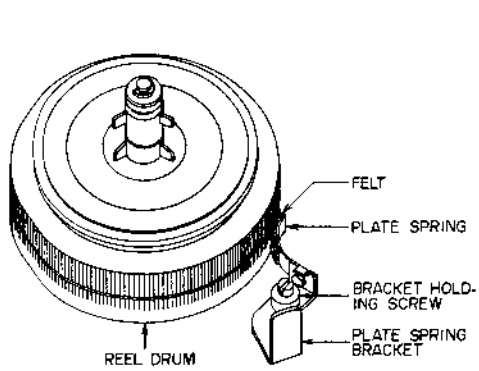

Fig. 1-9
- b) Adjust tension to 8 to 10g by changing the angle of the plate spring bracket. (Refer to Fig. 1-9)